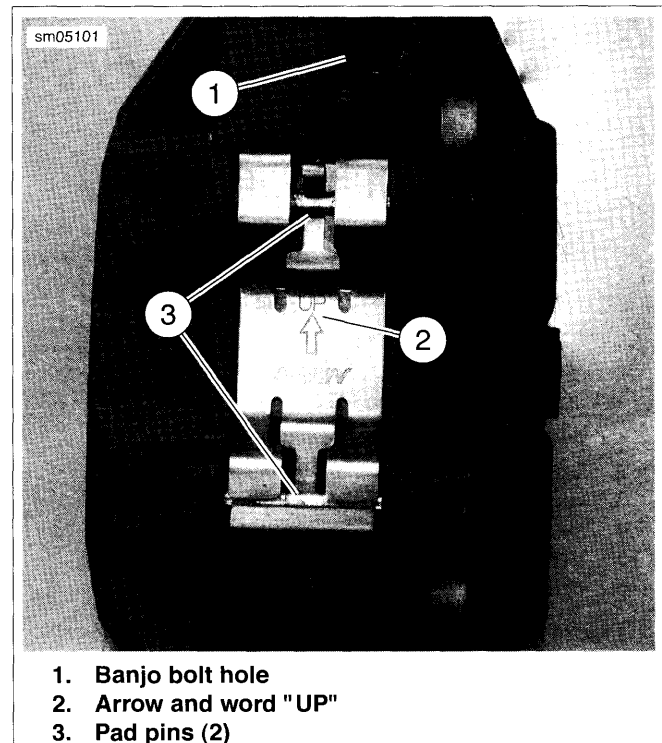

Figure 2-77. Front Caliper Pad Spring Orientation
6. See Figure 2-77. Install brake pads and pad spring. Ensure the spring is oriented as shown with the arrow and word "UP" (2) facing the banjo bolt hole (1). Secure with pad pins (3).